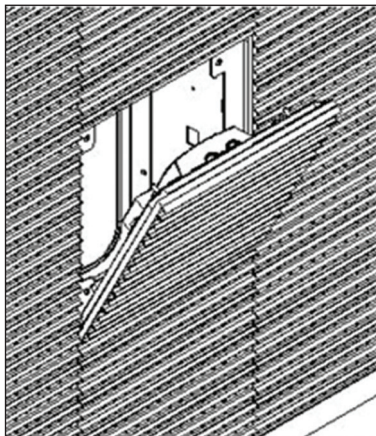

Figure 37: Front-Access Angle
**Note:** When performing this step, take care not to damage the louvers by tilting the module at too much of an angle. Refer to Figure 37.